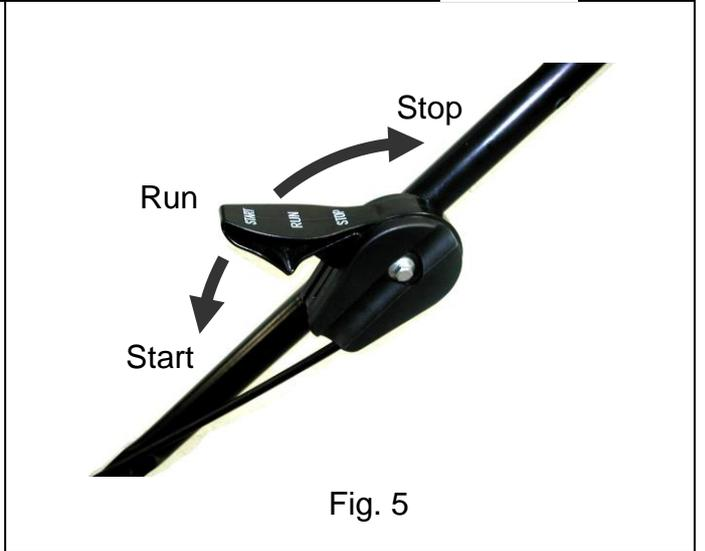

Fig. 5
1. Move the throttle control lever all the way forward to the START position (Fig. 5).
4. Let the engine run for 10 seconds then set the throttle control lever to the RUN position (Fig.5).
5. To stop the engine move the throttle control lever all the way back to the STOP position and wait for the engine to stop (Fig.5).